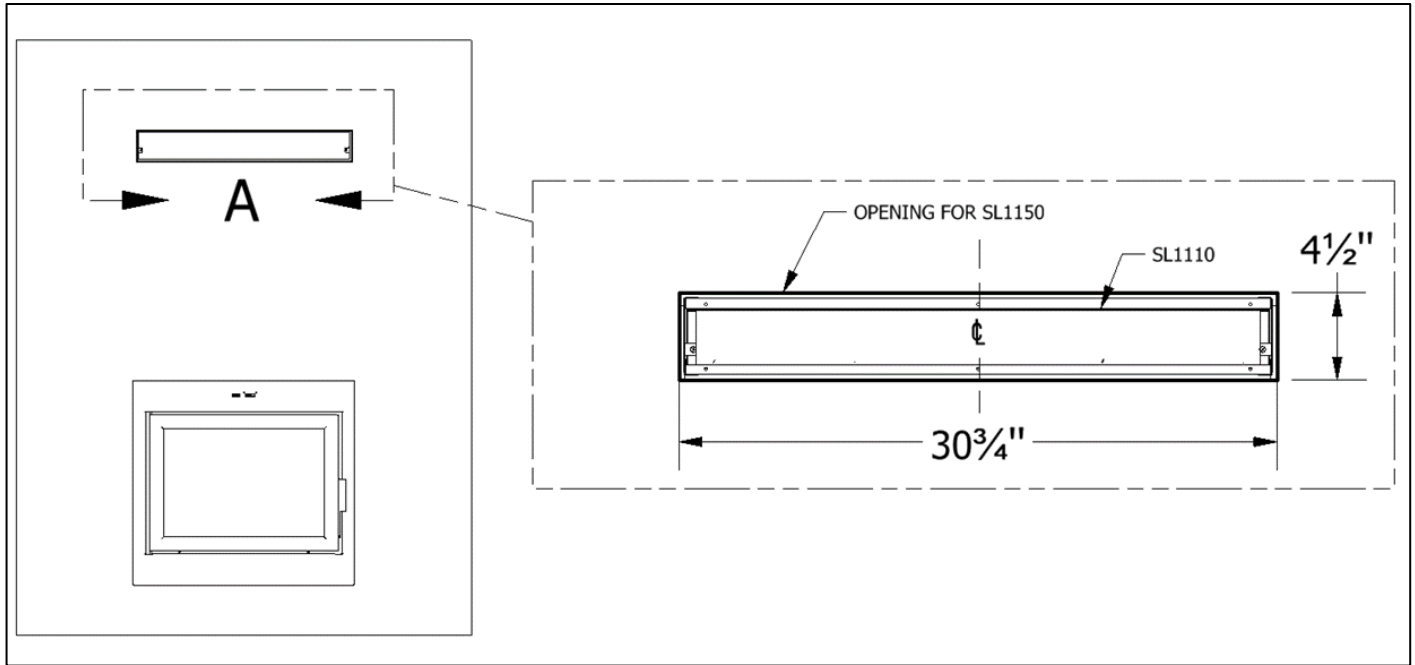

Figure 3-35: Opening for Air Outtake
10. Once the chase has been built, locate the linear duct/louver adapter outlet and cut an opening on the chase finishing material of 30.75" (W) X 4.5" (H) centered with the outlet (Figure 3-35).